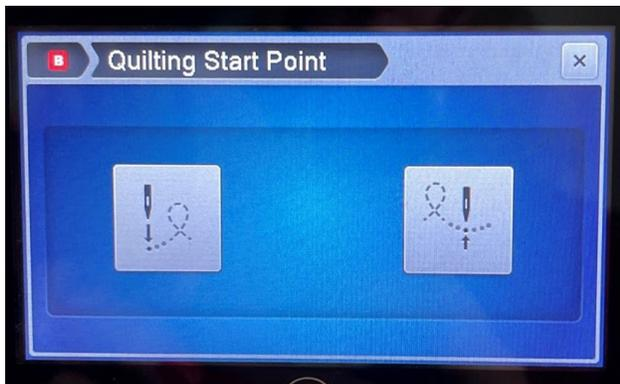

Fig. 62
3. Follow the prompt to pull up the bobbin thread (Fig. 62). Be sure to pull bobbin thread to the top of your quilt to prevent thread from becoming tangled in the carriage wheels as it moves or thread nests on the back of your quilt. The Sewhead screen will give you the option to turn off the Tie-in function every time you tell Q-matic to start stitching.